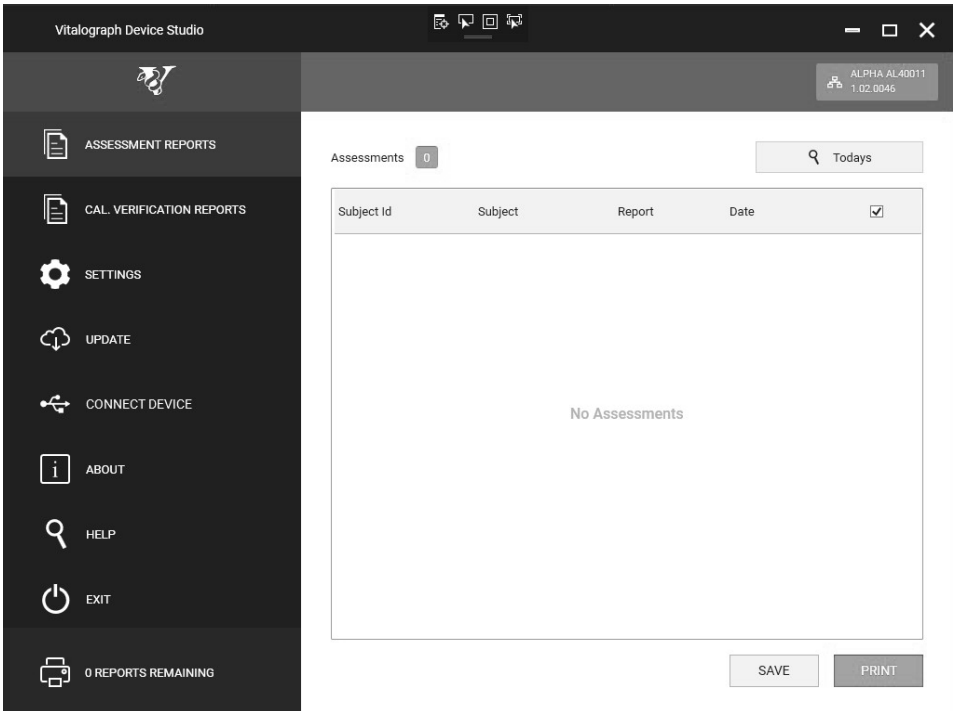

Figure 7
3. Device Studio will search for assessments on the device (see Figure 7). Available assessments are shown on screen and may be selected and printed and/or saved (see Figure 8).